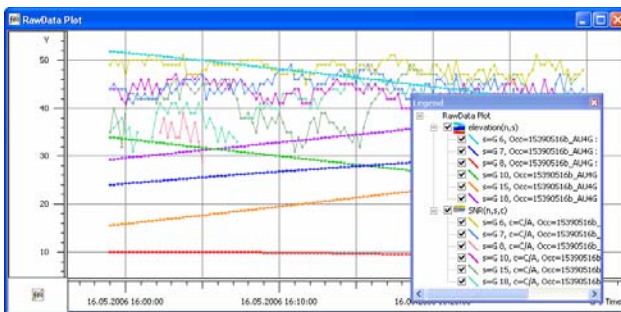

Figure 9-29. Adding Different Plots
- activate the **Select Plot: Functions** dialog box and add any plot to this dialog box (this command is identical to the *RawData Plot* in the pop-up menu of the *GPS Occupations* tab/ *Occupation View* (see Figure 9-23 on page 9-18). For example: adding the Elevation (of satellites) plot to the plot of the SNR for C/A slot (Figure 9-29).